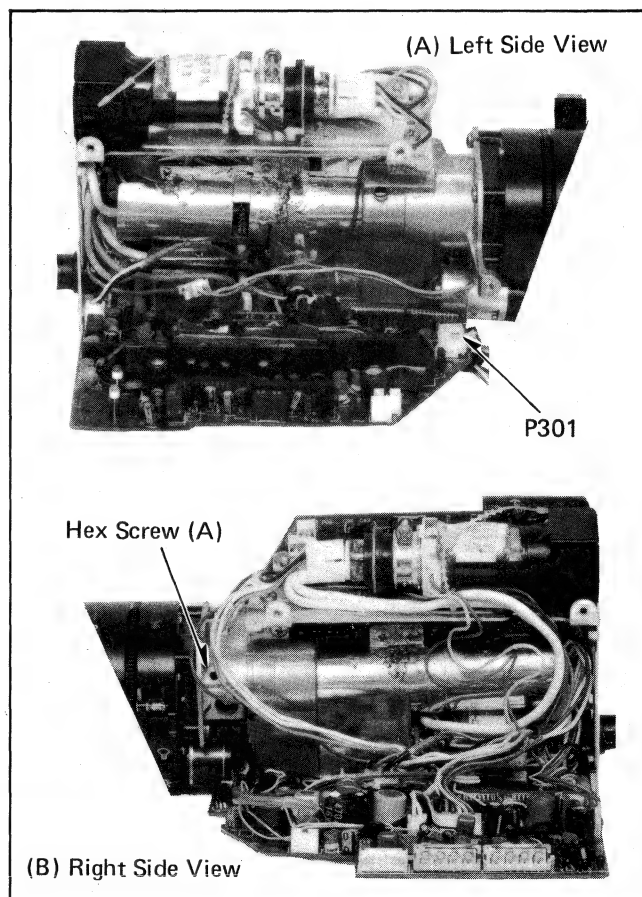

Fig. 14
- 4-2. Disconnect a connector (P301). Then, loosen the hex screw (A) (see Fig. 14-A/B).